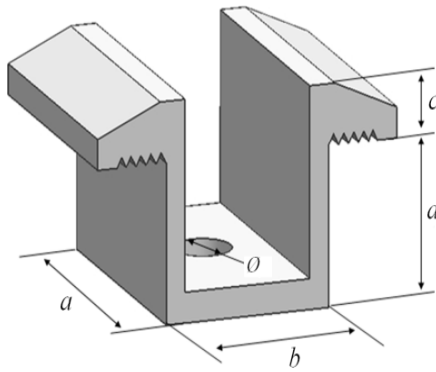
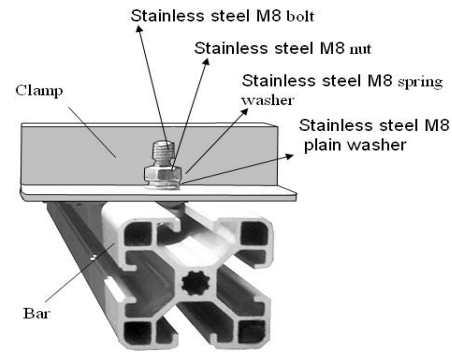

Figure 7
Figure 8
- j) Both of close-ups of Figure 7, indicating the middle clamps and Figure 8, indicating the side clamps for reference. Suggest the dimensions for middle clamps are: $a \geq 40$ mm, $b \geq 26$ mm, $c = 8$ mm, $d \geq 28$ mm, and $\varnothing = 9$ mm. The torque for tightening the nut and bolts are recommended 17~23Nm when the property class of bolts and screws is Class 8.8.